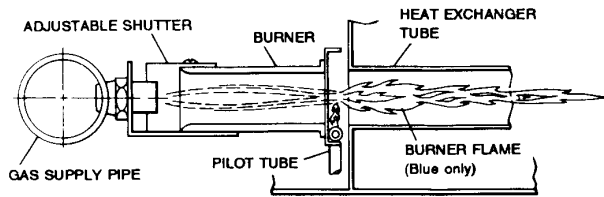

FIGURE 1 - MAIN BURNERS, PILOT TUBE, GAS MANIFOLD AND ADJUSTABLE SHUTTERS
9. If burning at the orifices, excessive yellow tipping, or excessive noise is observed during any phase of main burner operation, adjust the main burner air shutters (See Figure 1) to eliminate the problem(s).